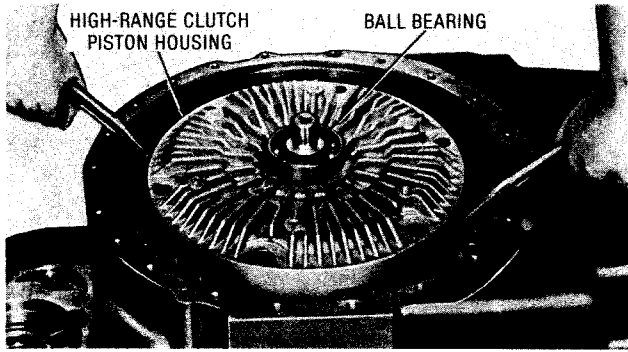

Fig. 5-21. Removing high-range clutch piston housing (TT 2221-1, 2421-1 without converter-driven PTO)
(2) Using two screwdrivers, pry the high-range clutch piston housing and attached parts from the transfer drive gear (fig. 5-21). Refer to paragraph 6-11 for the high-range clutch piston housing rebuild instructions.
(3) Proceed to paragraph 5-10.